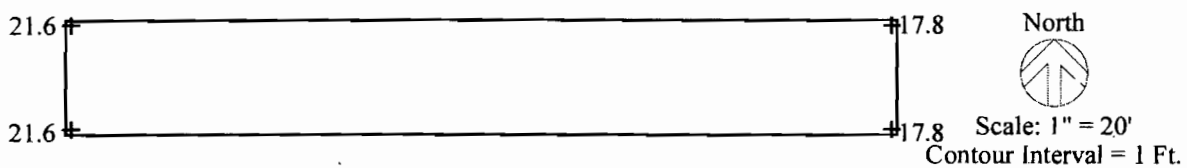

Figure 21. Example — Plane Surface
In the following example, whole number contour lines are to be plotted on the plane surface shown in Figure 21.
Step 1. Find grade of the plane surface shown in Figure 21.